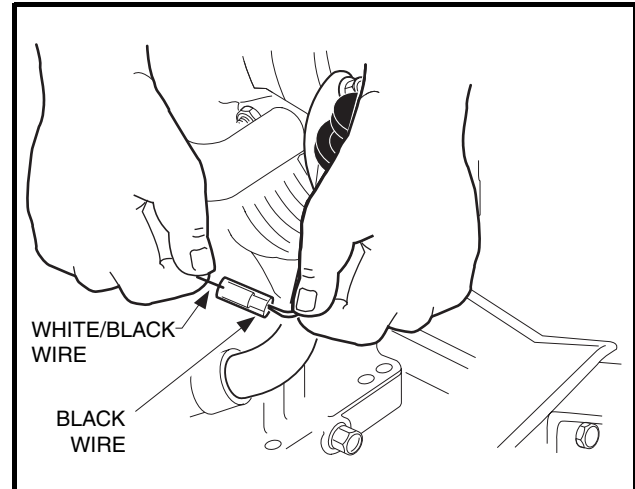

Figure 18-43 Ignition Kill Wire
18. Connect the engine kill switch wire (18-gauge white/black) to the bullet connector at the lower right front of the engine (**Figure 18-43, Page 18-16**).